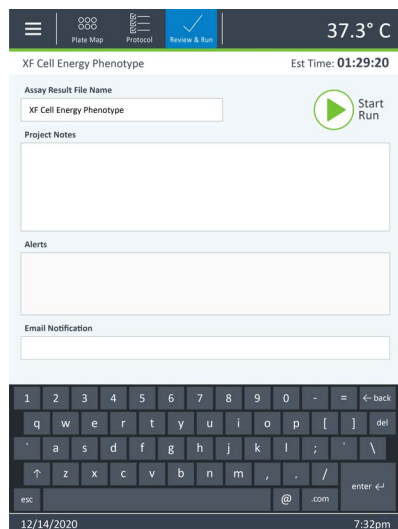

Figure 6. Assay name.
- a Click the **Assay Result File Name** text box to customize the name of the assay result file. See **Figure 6**.